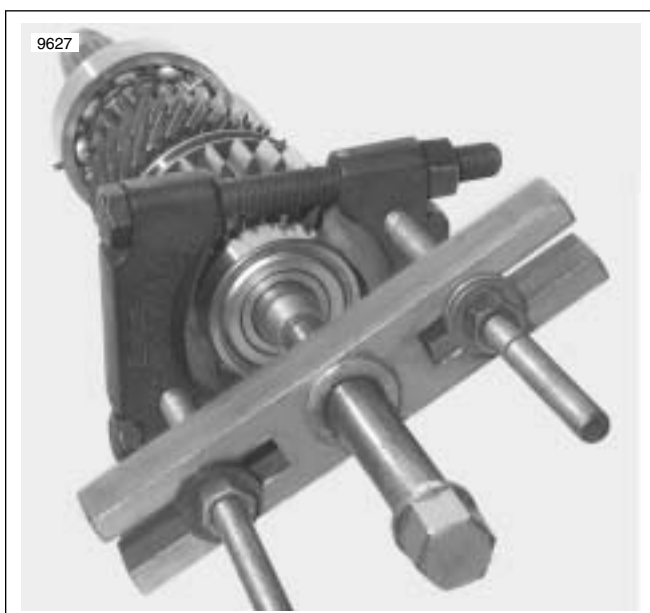

Figure 7-39. 2nd Gear Bearing Removal
2. See Figure 7-39. Use puller to remove 2nd gear bearing. To protect the end of the shaft use END CAP (HD-